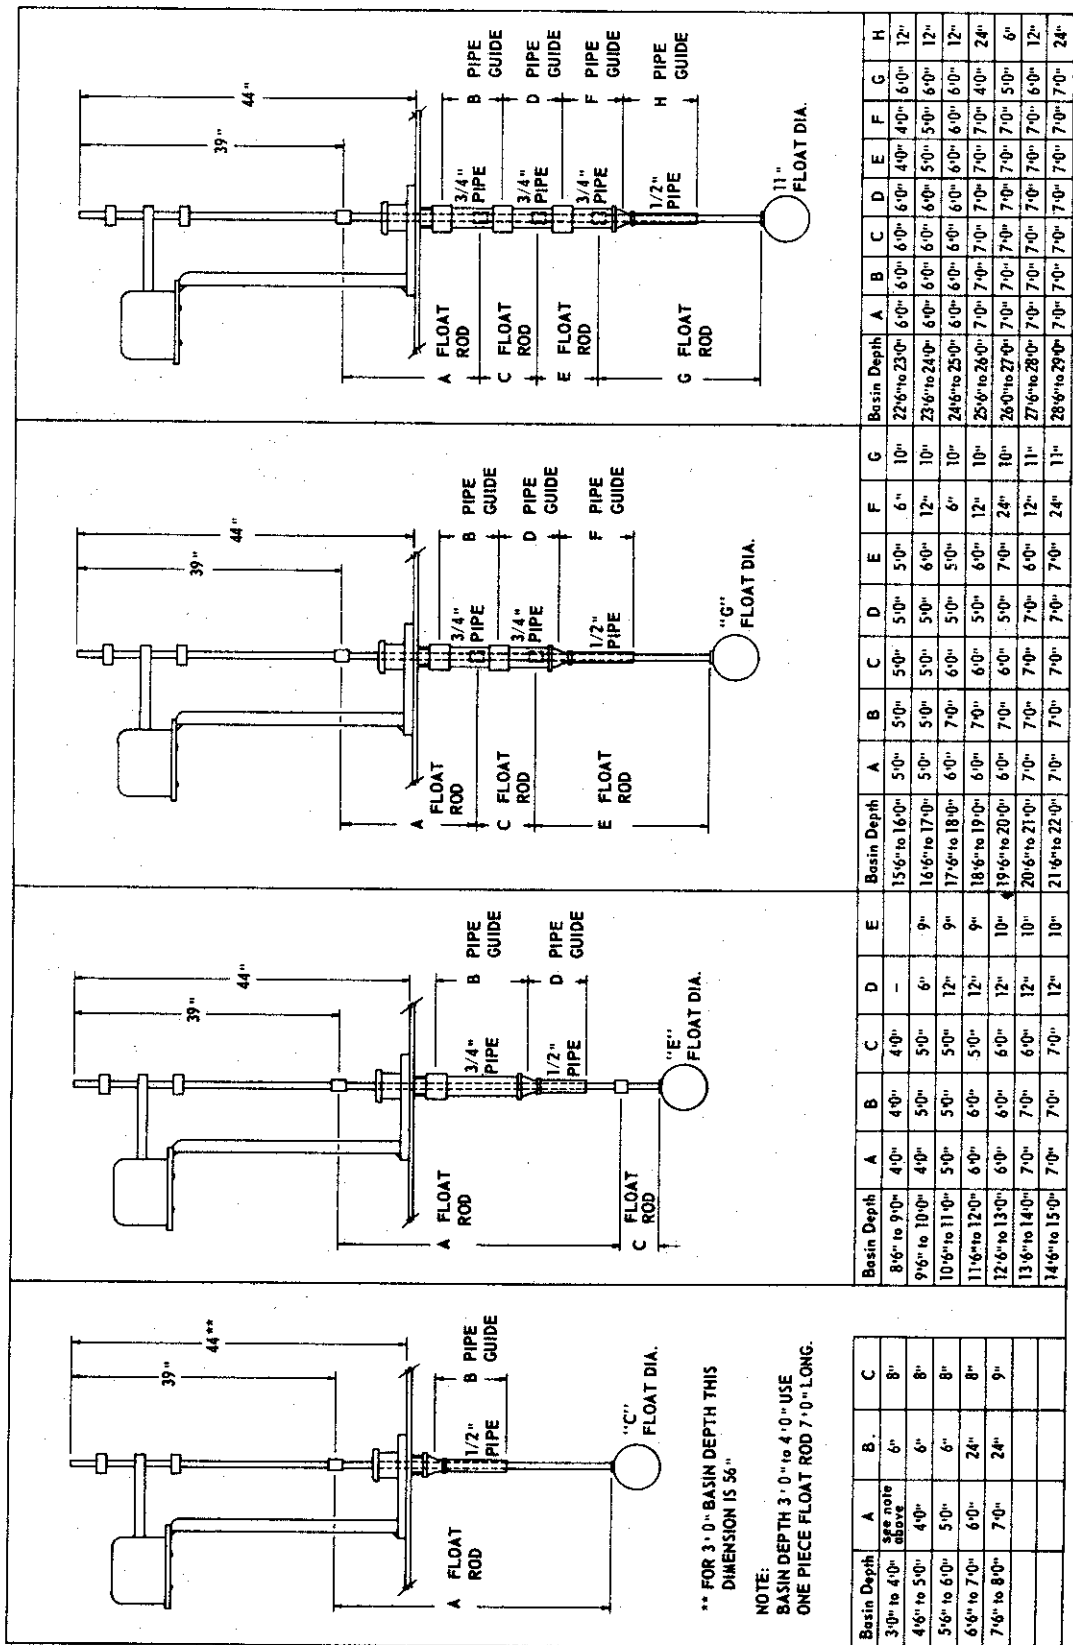

Figure 5. Installation Dimensions, C84A
3. Start the second float rod section (dimension A, figures 5 thru 9) down through the oil seal assembly. For C93A float control, slide the compression spring and washer on the top end of the second float rod section sticking out above the oil seal assembly. Put a locknut and coupling on the rod end and allow this rod section to rest on the washer and compression spring for a C93A, or on the seal assembly for a C84A.
5. From below the basin cover, couple the existing float rods and float rod guide pipes together. Use locknuts on both sides of the float rod couplings. Alternate the assembly of float rod sections and guide pipes (see figures 5 thru 9).